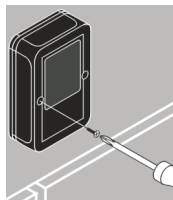

Fig. 7
- 7 - After the adjustments, fit the cover using the the screws supplied ( Fig. 7).